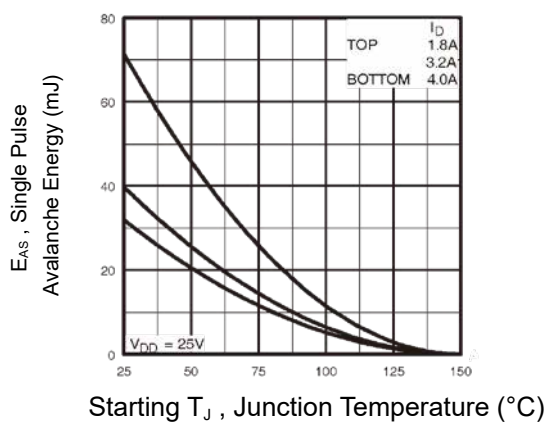

Figure 9: Maximum Avalanche Energy Vs. Drain Current
- ① Repetitive rating; pulse width limited by max. junction temperature.(See fig.9)